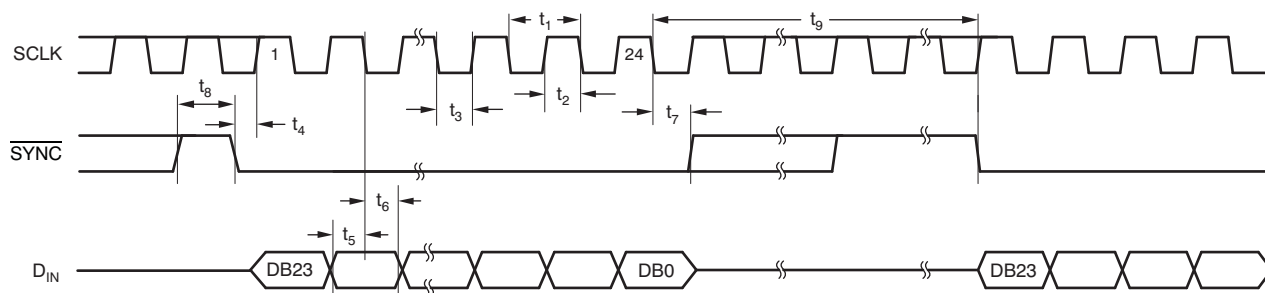

Figure 1. Serial Write Operation
(1) All input signals are specified with $t_R = t_F = 5\text{ ns}$ (10% to 90% of V_{DD}) and timed from a voltage level of $(V_{IL} + V_{IH}) / 2$.
(2) See Figure 1.
(3) Maximum SCLK frequency is 30 MHz at $V_{DD} = 3.6\text{ V to }5.5\text{ V}$ and 20 MHz at $V_{DD} = 2.7\text{ V to }3.6\text{ V}$.